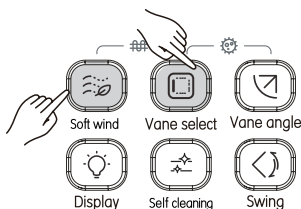

Figure 3.20
- 1) Press  and  at the same time to start auxiliary heater (see Figure 3.20), and the screen will display the icon ON;